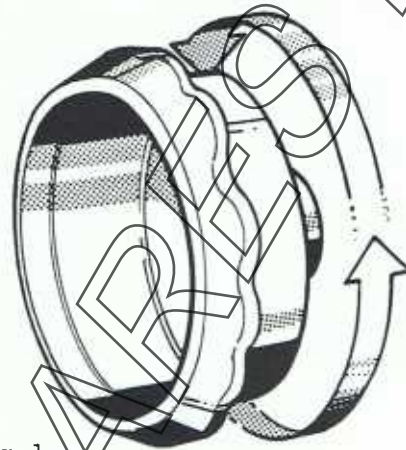

Fig.1
2. Turn black speed indicator counter-clockwise to stop.(see Fig.1).